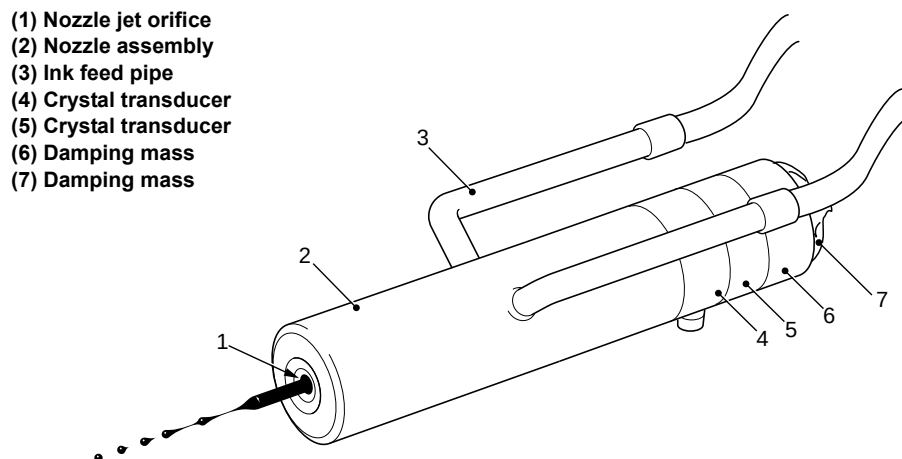

Figure 6-20. Ink Jet Formation
An electrically conductive ink is supplied under pressure by the ink system to the nozzle assembly (Item 2 in Figure 6-20) via the ink feed pipe (3). An ink stream is formed as the ink is forced out of the nozzle jet orifice (1). A modulation signal is applied to a ceramic transducer which is clamped to the nozzle assembly. The transducer crystals (4 and 5) causes the nozzle assembly to vibrate longitudinally, breaking up the ink stream into droplets, a small distance away (the break up point) from the nozzle jet orifice. The frequency of modulation on a standard Si printhead is 76.8 kHz. The nozzle has a damping mass (6 and 7) attached to the rear of the transducer to mechanically “tune” the nozzle assembly to the modulation frequency.